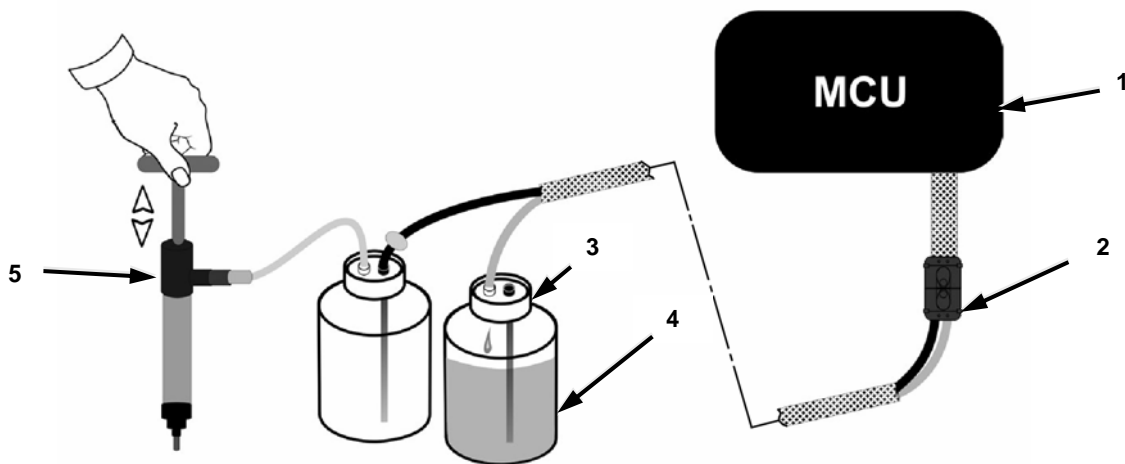

**Figure 2-32. Release Tether for Purging MCU.**
Step 4 below applies to Figure 2-32.
4. Connect release tether (2) to MCU (1).